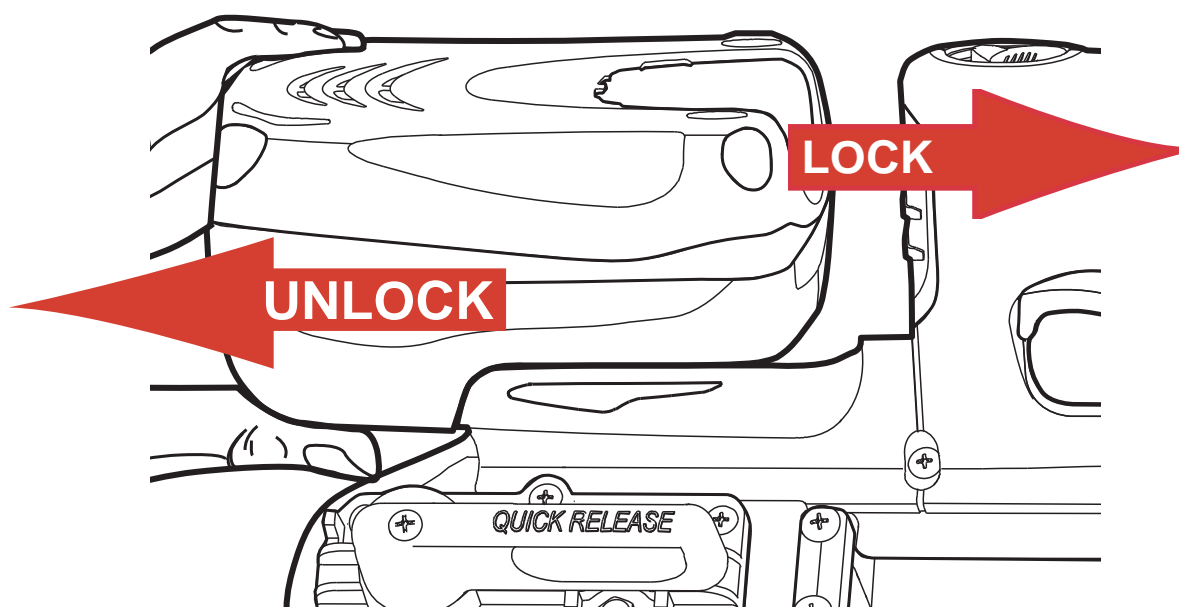

FIG 02
ALIGN the raised portion on the Battery pack with the grooves on the bottom of the Band Saw. After INSERT the Battery in the machine as shown in figure 02;
1. PRESS the Battery Release Button located on the front of it to release it (figure 02);